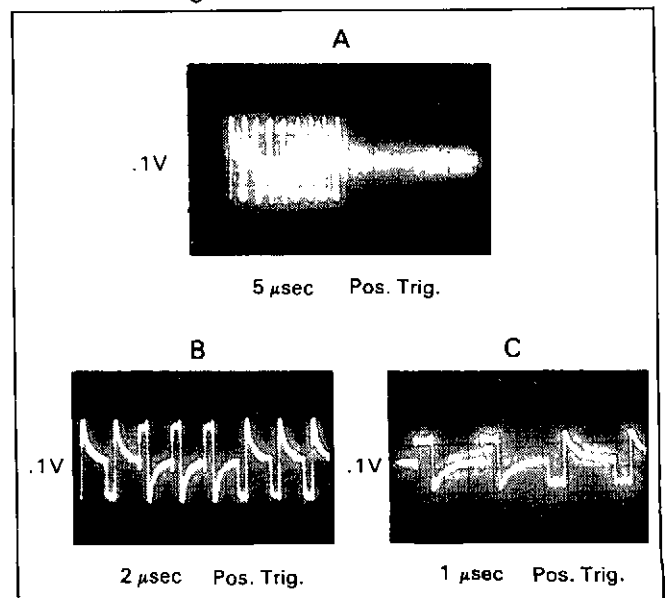

Figure 8-A-7. Transmitter Output.
- b. Connect the vertical input of an oscilloscope to the core of transformer A3T1. Using the scope set-up information in Figure 8-A-7A, check for the waveform shown in the figure.